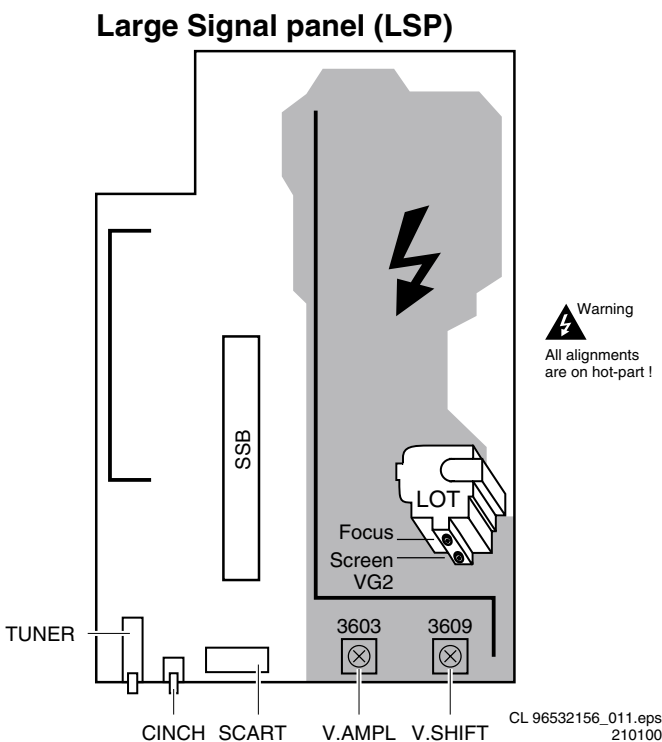

Figure 8-1
2. Adjust the Focus potentiometer (upper potmeter, see figure 8-1) for an overall optimum focusing of the picture.
4. Adjust the Vg2 potentiometer (lower potmeter, see figure 8-1) so that the measuring pulse with the highest noted level is on  $160 \pm 3\text{ V}_{\text{DC}}$  level.
2. Align the vertical amplitude with R3603 (see Fig. 8-1) so that the complete test pattern is visible.
2. Align the vertical centering with R3609 (see Fig. 8-1) so that the test pattern is located vertically in the middle.